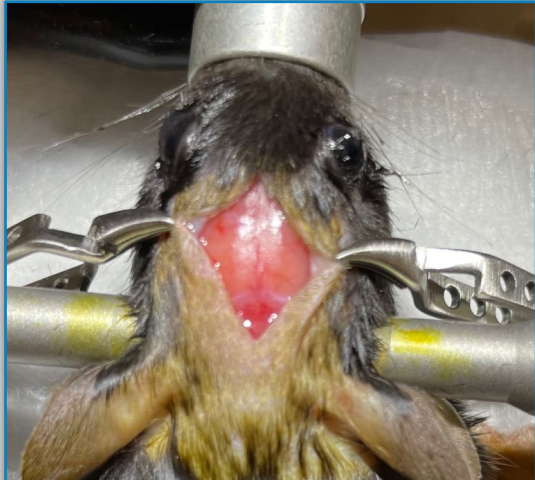
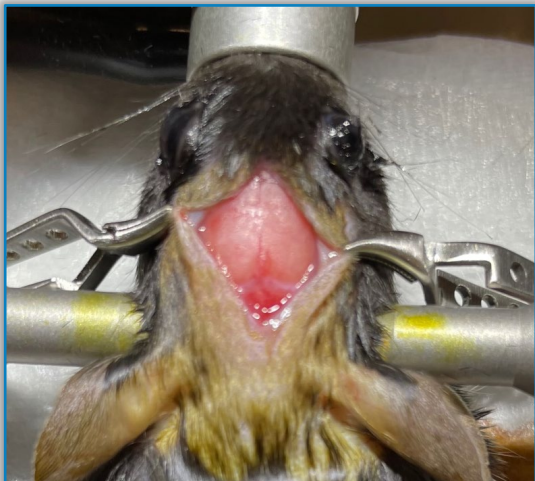

Figure 3 | Steps 5 & 6
Figure 4 | Step 7
Step 7 | Use a cotton swab to remove the membrane layer on top of the skull. Start at the midline and push the membrane laterally towards the edge of the skull. *Note the lack of reflection on the skull after the membrane was removed in Figure 4 vs. Figure 3 when it was intact.*